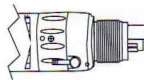

Figure.5
③ When the switch is in the middle of F and B (see figure.5). air motor could be temporarily stopped.